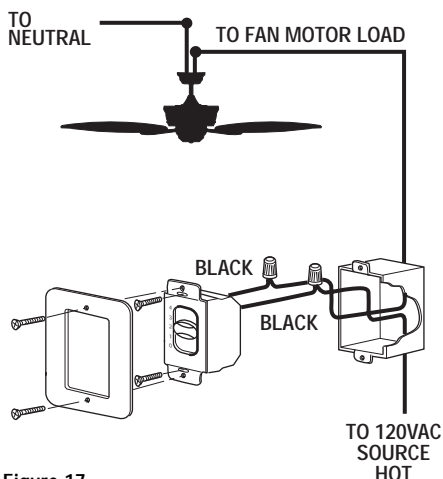

Figure 17
- 4. Slide the Fan Control to the OFF position (0).
- 5. Connect one BLACK wire from the Fan Control to the fan motor lead wire with a wire connector (provided). (Figure 17.)